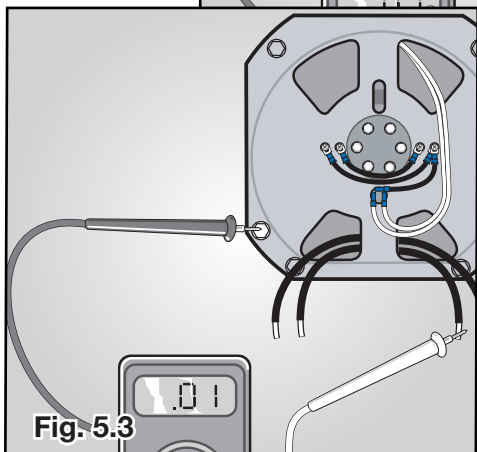

Fig. 5.3
- Test yellow exciter wires (See Fig. 5.3) according to table below.